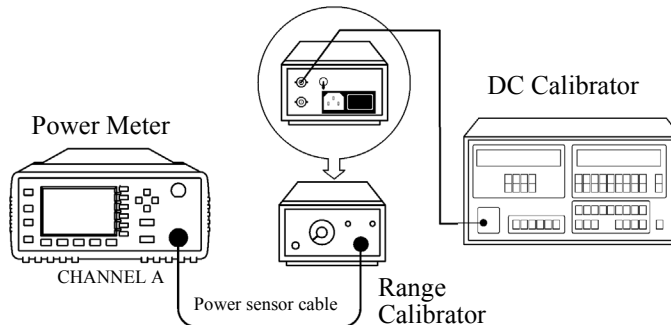

Figure 2-3: Instrument Accuracy (Average Path) Test Setup
1. Connect the equipment as shown in Figure 2-3.
3. Figure 2-3 shows the HI/LO outputs of the DC calibrator connected to the DC reference input of the range calibrator. Ensure that the Guard and LO output of the DC calibrator are floating, and are not connected to the earth ground.